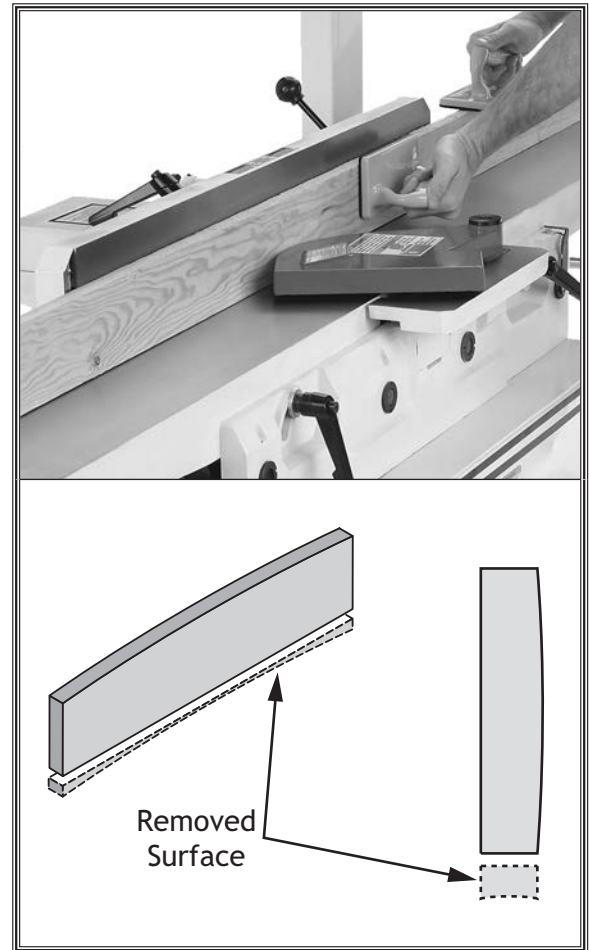

Figure 23. Example of a typical edge jointing operation.
Edge jointing (see **Figure 23**) produces a flat and true surface along the side of a workpiece by removing uneven areas. It is an essential step for squaring up warped or rough stock and when preparing a workpiece for joinery or finishing.
6. Place workpiece firmly against fence and infeed table with concave side facing down, as shown in **Figure 23**.